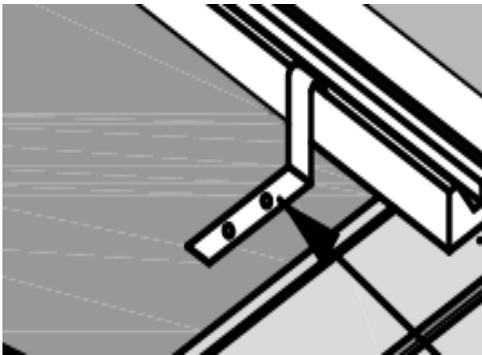

Figure 2
- A. Position the base of the Wind Clip on the first row of field tile within the lowest 1/3 of the length of the roof tile with the base of the Wind Clip flat on the underlayment. The clip’s hook then firmly engages the under-lock of the tile. (Figure 2)